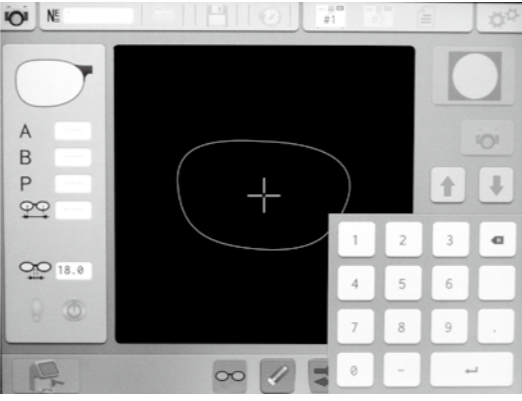

fig. 5
5. System will automatically jump to fig.5.